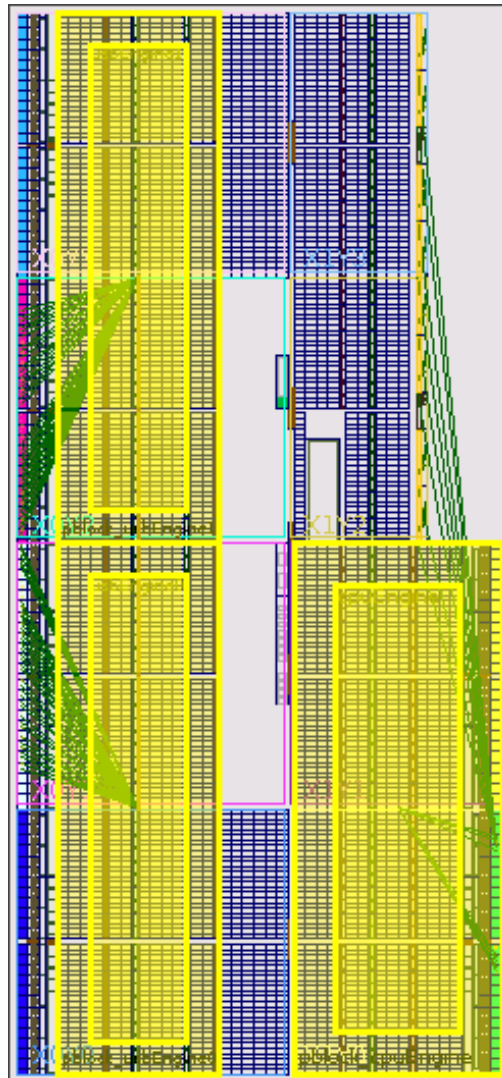

Figure 5: Completed Floorplan for Pblocks usbEngine0, usbEngine1, and cpuEngine
5. Click the top-left corner of the device where the CLBs start (reference Figure 5 for completed view).